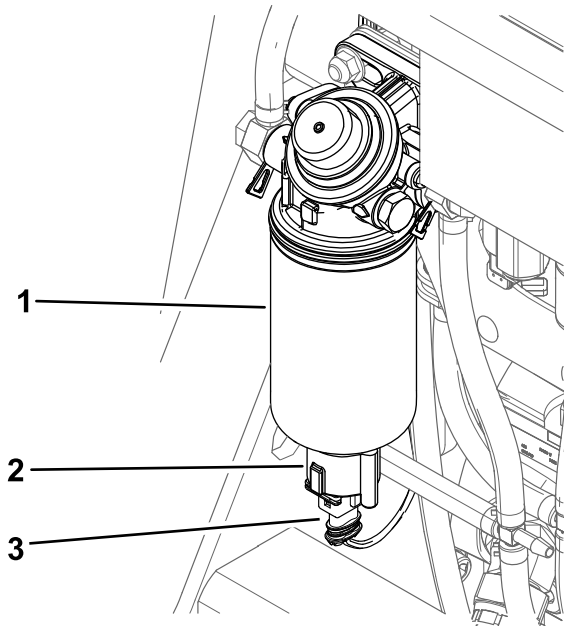

Figure 56
6. Disconnect the wire harness from the water separator (Figure 56).
8. Install the switch (Figure 56).
9. Connect the wire harness to the switch (Figure 56).
6. Unscrew the switch and drain the water separator (Figure 56).
7. Unscrew the switch from bottom of the filter canister and allow the water to drain (Figure 56).